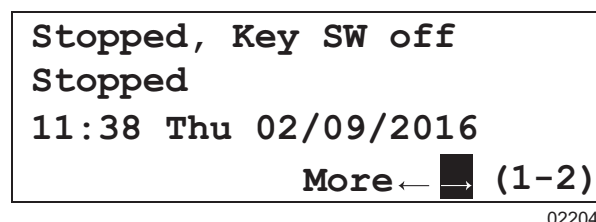

Figure 11 - Status Page
2. Press the DOWN button until STATUS is highlighted, then press ENTER. The Status page displays (Figure 11).